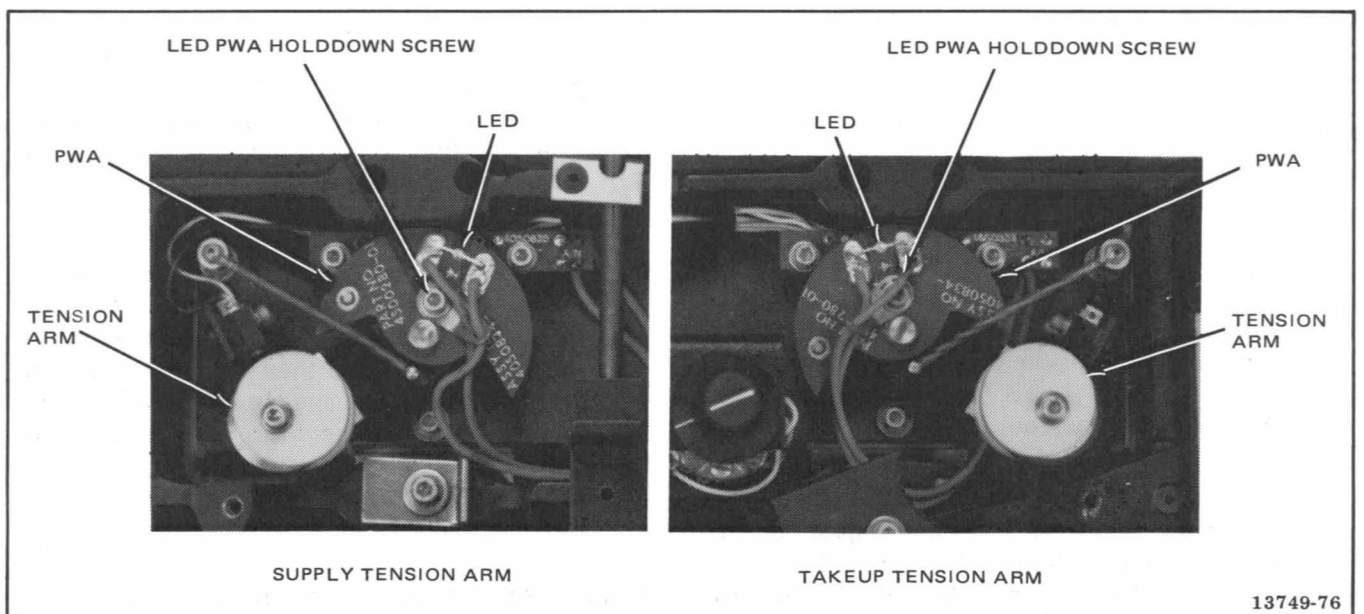

Figure 5-23. Tension Arm Limits Adjustment
- b. Loosen the appropriate LED PWA hold-down screw (Figure 5-23) and rotate the PWA relative to the tension arm. Tighten screw.